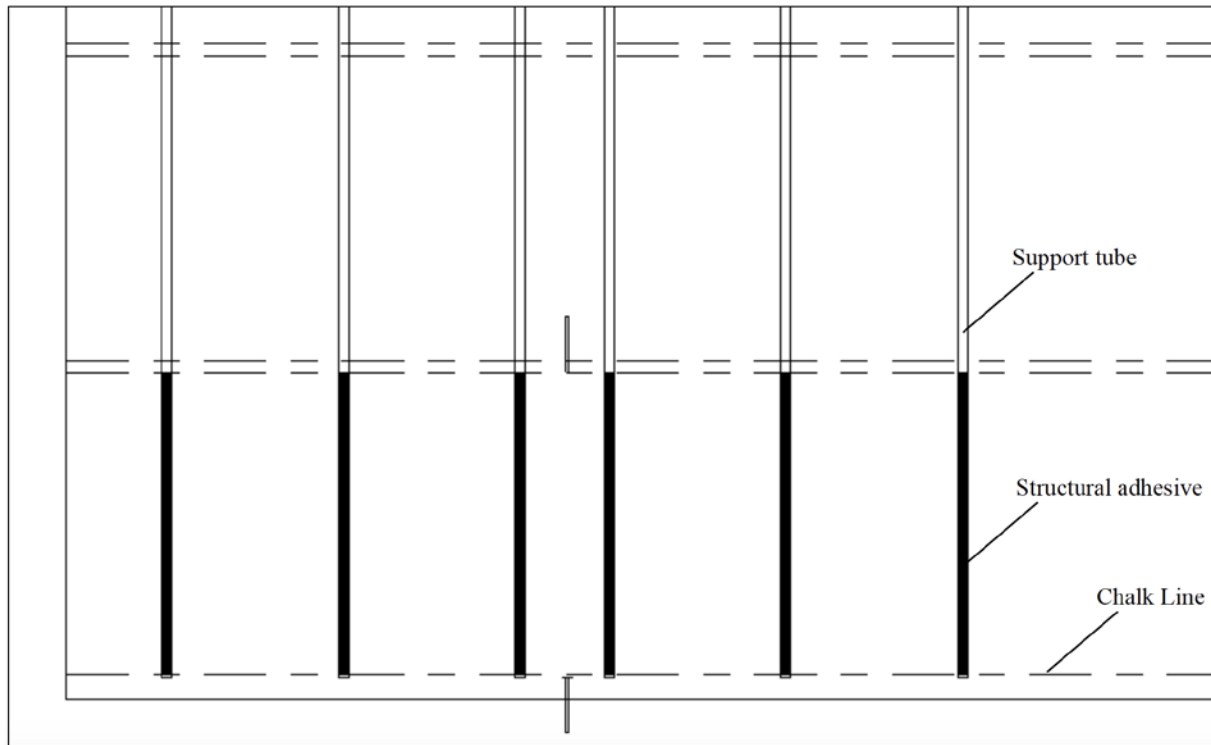

Figure 15
- ① Before product construction, all materials and adhesive to be processed must be stored for at least 24 hours under equal conditions (such as 5° C-40° C) and protected from sunlight, rainwater and other weather factors.
- ② Clean the roof substrate. The roof surface must be clean, dry and free from oil, dust and other waste pollution. Every step in the construction process must prevent secondary pollution of the cleaned material surface. If pollution occurs, the surface must be re-cleaned.
- ③ The on-site construction should meet the requirements of the selected structural adhesive for the construction environment, construction technology and other construction requirements.
- ④ The adhesive position of the support tube should be determined by the chalk line, and the structural adhesive should be applied on the substrate according to the gluing rules at the location where the product needs to be installed. Then install the tubes.
- ⑤ The adhesive position on the support tube should be determined by the chalk line, and the structural adhesive should be applied according to the gluing rules at the location where the product needs to be installed (Figure 15).